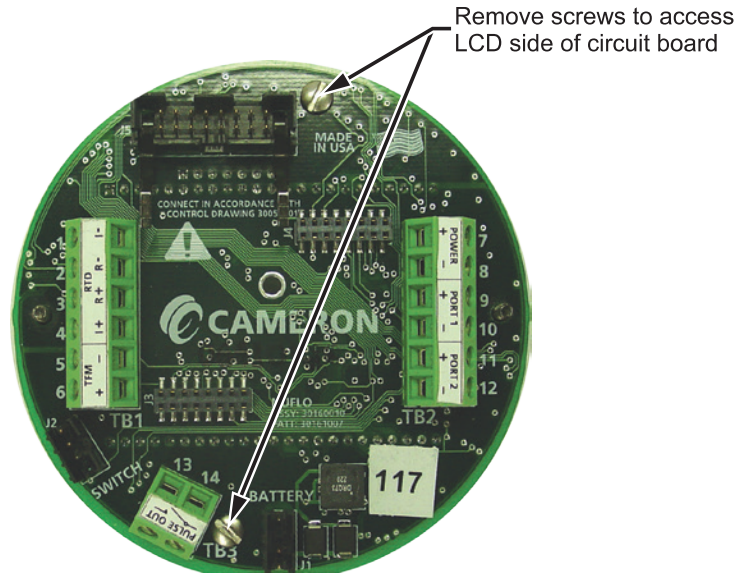

Figure 5.3—Disassembly of circuit board/keypad assembly
9. Remove the two #4-40 × 5/16-in. screws fastening the circuit board to the keypad (Figure 5.3, page 82).
4. Remove the two #4-40 × 5/16-in. screws fastening the circuit assembly to the keypad (Figure 5.3, page 82).